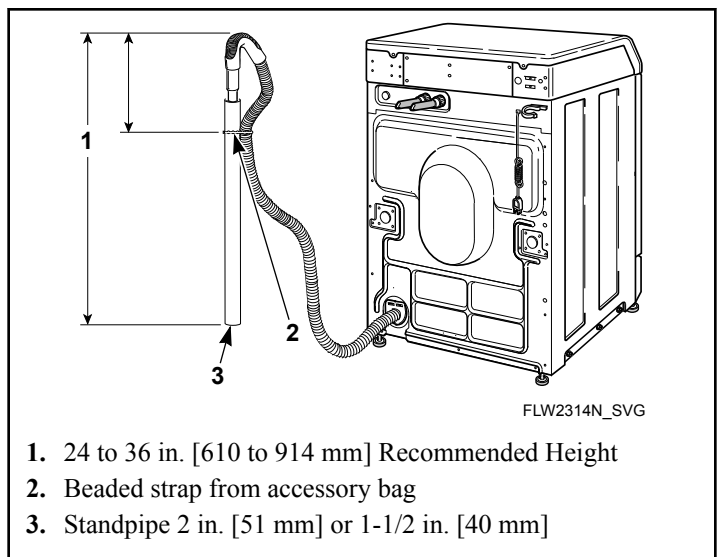

Figure 8
- Remove the beaded tie-down strap from accessories bag and place around standpipe and drain hose. Refer to Figure 8.